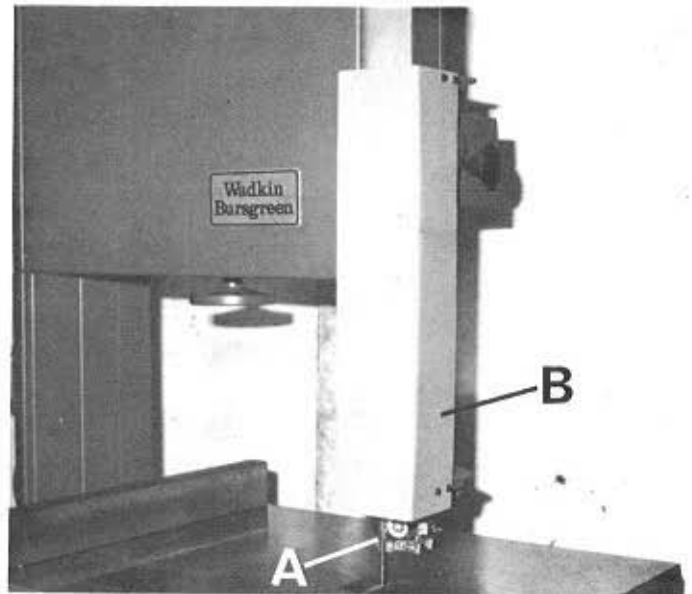

FIG 12
A sawguide unit "A", FIG.12, is fitted above the table and is fully adjustable for adequate sawblade support. The unit is fitted with TEFLOY support blocks and a long life bearing.
2. Swing guard "B", FIG.12, clear of guide.
6. Swing guard "B", FIG.12, back to working position as shown in FIG.12.